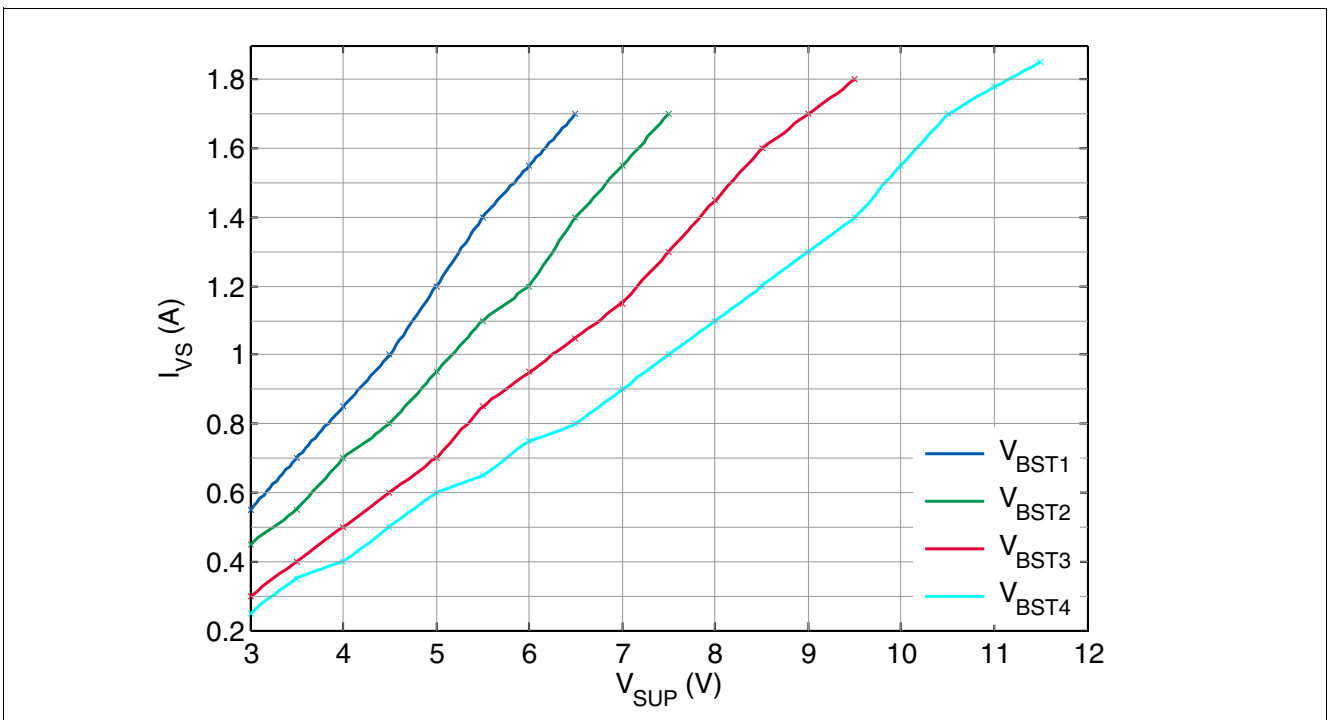

Figure 19 Maximum DCDC Boost current capability versus V_{SUP}
2) Values verified in characterization with Boost converter external components specified in Chapter 14.1. No subject to production test; specified by design. Refer to Figure 19 for additional information.
Note: **Figure 19** is based on simulation results (specified by design), with Boost converter external components specified in **Chapter 14.1**.